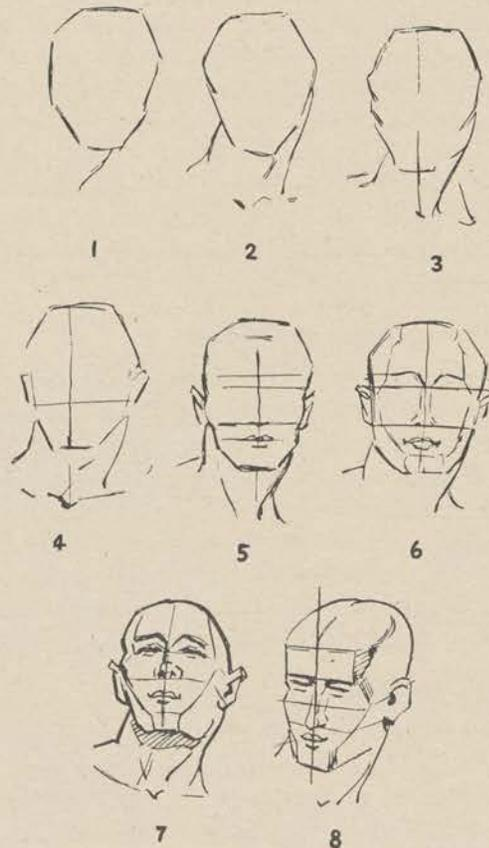

Figure 222.
(1) The forehead: square and passing into the cranium at the top.
(2) The cheek-bone region: flat.
(3) An erect, cylindrical form on which are placed the base of the nose and the mouth.
(4) The triangular form of the lower jaw.
b. Begin by drawing in straight lines the general contour of the head (fig. 222).